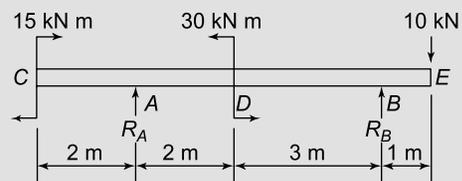

Figure 7.16
**Problem 3.** Determine expressions for the bending moment and shearing force distributions for the beam of Figure 7.16. Hence, sketch the bending moment and shearing force diagrams.